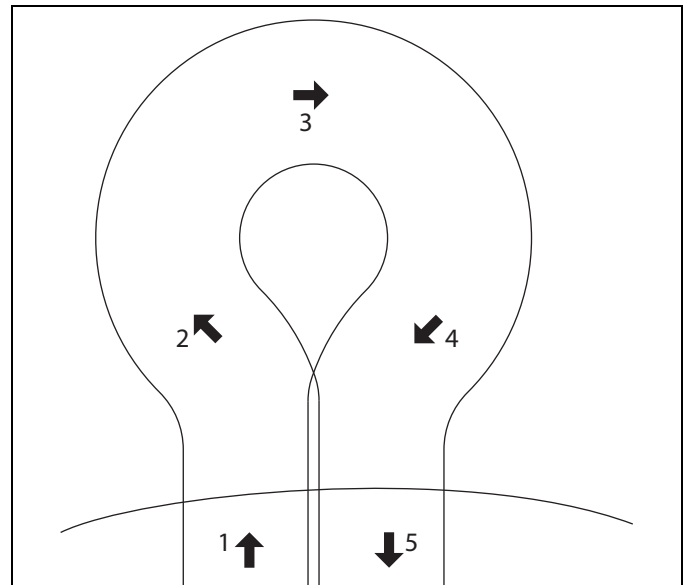

Figure 5C
- e. To turn to the right, start by turning mower slightly to the left **(2)**. When the mower has moved approximately 1/2 its own width to the left, swing it around quickly to the right **(3 and 4)**, guiding the mower with your right hand. This method makes it possible to turn around quickly with very few steps. **[Figure 5C]**.